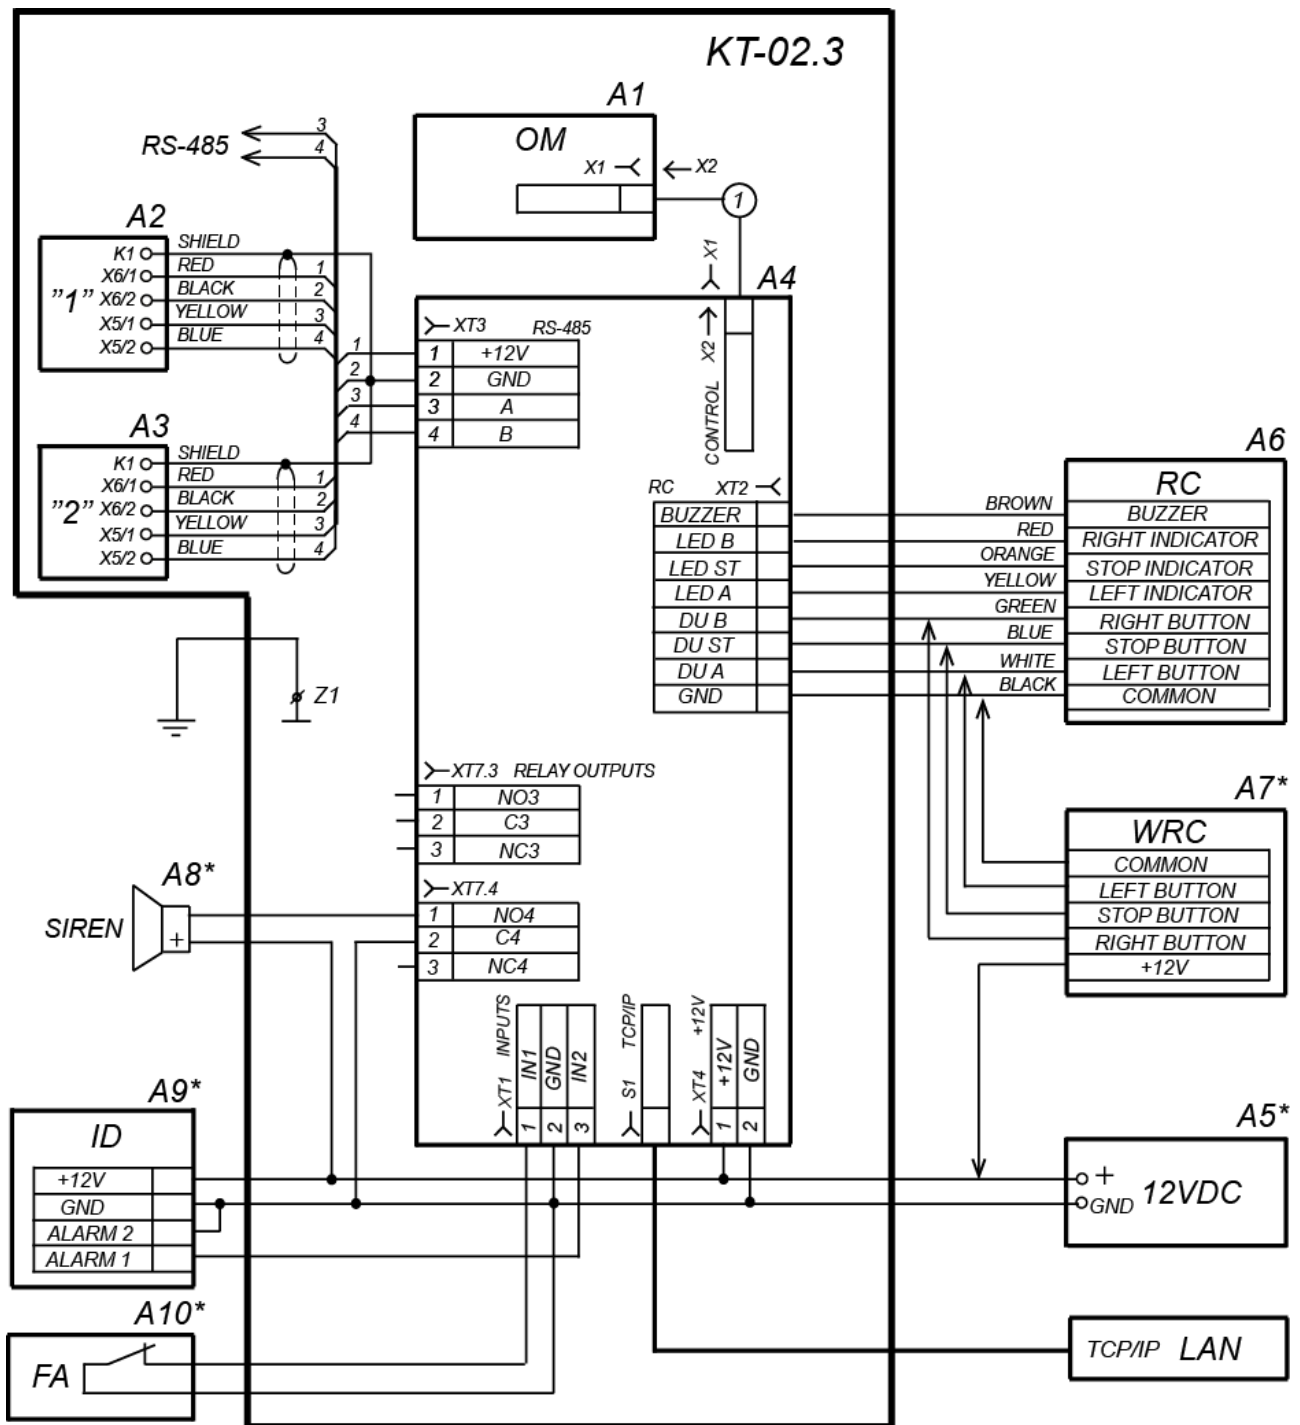

Figure 12. Connection layout for KT-02.3 and optional equipment ¹
- (during installation of IP-Stile, the openings 8 and 9 are sealed with the insulation bushings); referred to as A1-A4 in Figure 12
The connector block position on the IP-Stile controller board is shown on Figure 5. Connector block layout is shown in Table 1. Connection layout is shown Figure 12. Types of cables are stated in Table 5. Follow this sequence during reader installation:
11. Connect the power cable (12) to the **XT4** connector block on the controller board. Connect the cable of the RC-panel (10) to the **XT2** connector block as per Figure 12. If necessary, connect cables of other devices to the corresponding connector blocks.
12. Perform the IP-Stile housing grounding. Ground contact **Z3** is under the top cover (3) to the left of the controller board. In order to fix the grounding cable on the contact use M4 screw.